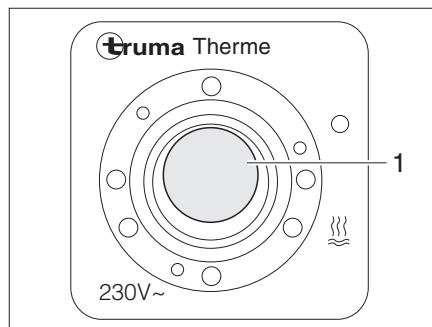

Fig. 121 Operating switch for water heater
The electrical mode of operation is activated using the operating switch (Fig. 121). The indicator lamp (Fig. 121,1) on the switch must light up.
- Switch on the operating switch (Fig. 121). Indicator lamp (Fig. 121,1) on the switch lights up.
- Switch off the operating switch (Fig. 121). The indicator lamp (Fig. 121,1) on the switch goes off.
- Switch off the operating switch (Fig. 121). The indicator lamp (Fig. 121,1) in the switch is not on.